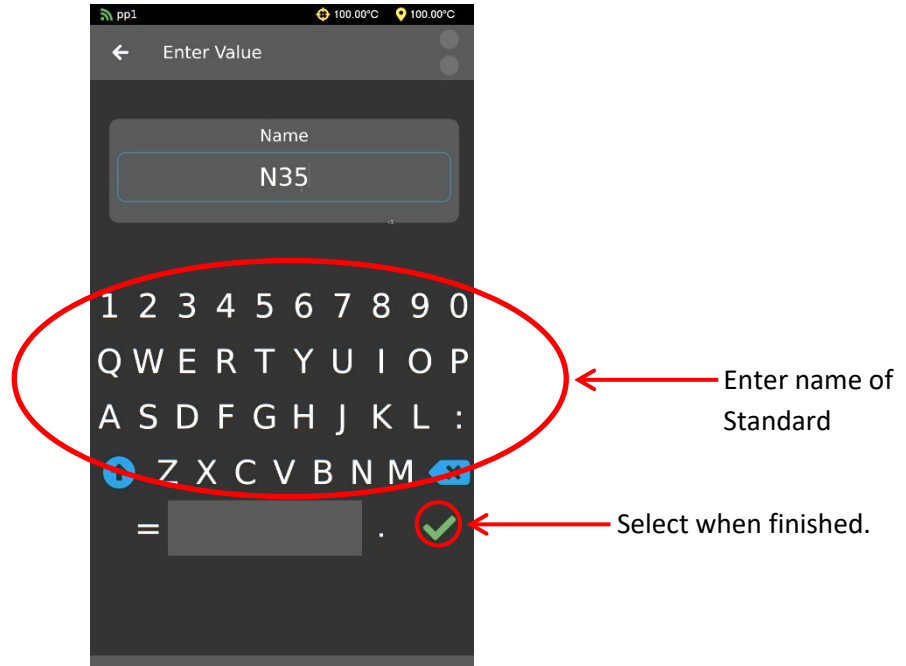

Figure 26: Naming Standards Screen
6. Use the touchscreen keyboard to enter the name of your Standard. Once finished, use a single touch to select the **Green Checkmark**. See Figure 26